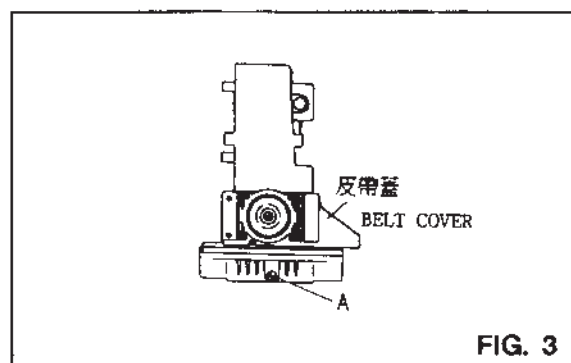

FIG. 3
2. Motor should run clockwise with proper tension for driving belt. It can be checked by pushing belt inward for 20mm. Please install belt cover properly for safety purpose. (Fig. 3 & 4)
2. To replace lubricant oil: (Fig. 3)
* Loosen Knob (A), drain oil from the oil tank and tighten it up.